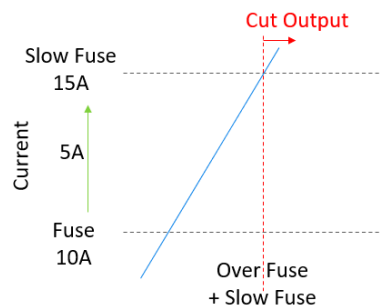

Figure 2-8-7 Overcurrent
• Over Current Buffer limit (Figure 2-8-7):